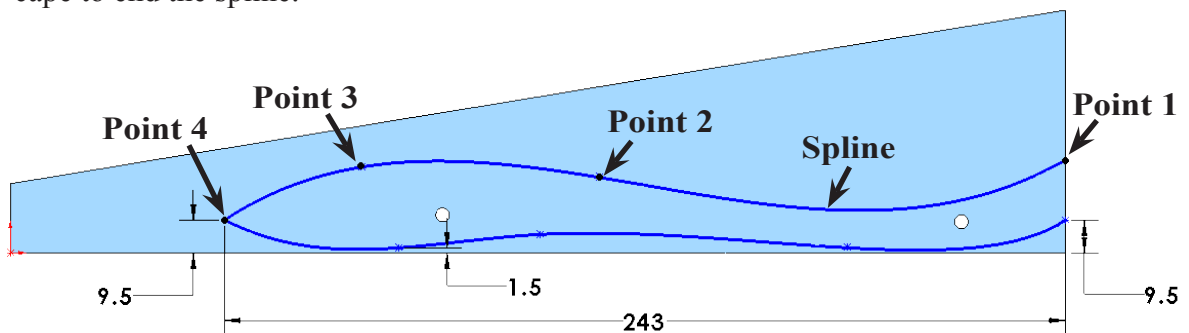

Fig. 10
Step 6. Click **Spline**  (S) on the Sketch toolbar.
Step 7. Draw a 4 point spline starting on the rear edge of Blank above the first spline, **Point 1, Fig. 10**. Click approximately where the 4 points are positioned in **Fig. 10**. Keep the other splines points, Points 2 and 3 away from other geometry and top edge of Blank. Press **Escape** to end the spline.